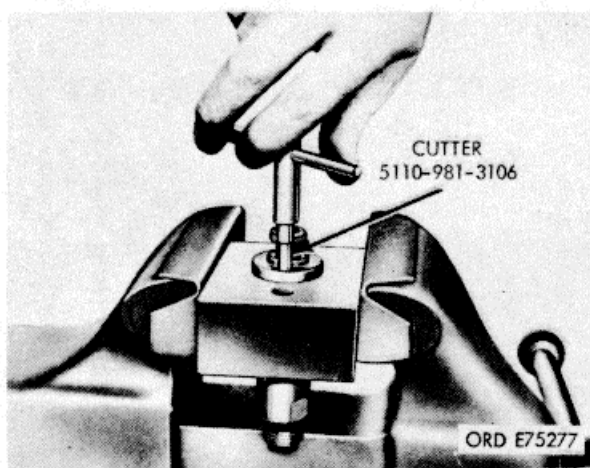

Figure 3-68. Ball seat resurfacing
(5) If leakage is observed, the ball must be reseated.
*f Seating the Ball Valve* (fig. 3-68).
(1) Remove retainer plug at top of injector body. Leave ball in place, but discard retainer gasket.